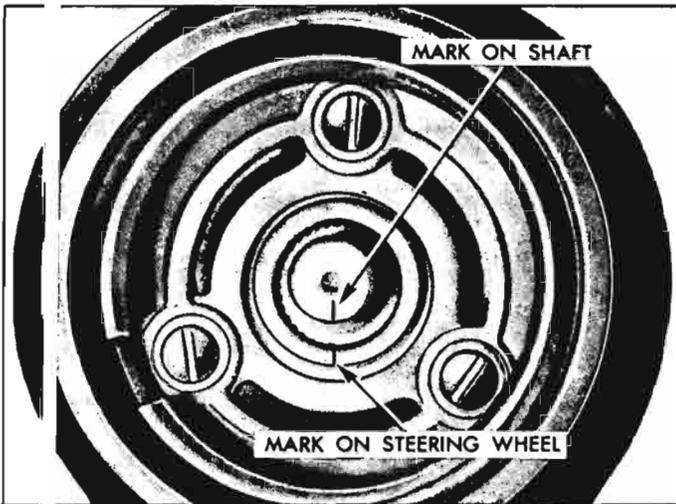

Fig. 4-9—Steering Wheel Alignment Marks
1. Replace all components in the order removed. Make sure that the mark on the steering shaft lines up with the mark on the steering wheel (fig. 4-9). Torque wheel nut 35-40 ft. lbs.